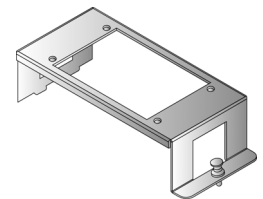

Figure 2
- Included Single-Bay Module Mounting Bracket (P/N 364890-01) (see **Figure 2**)